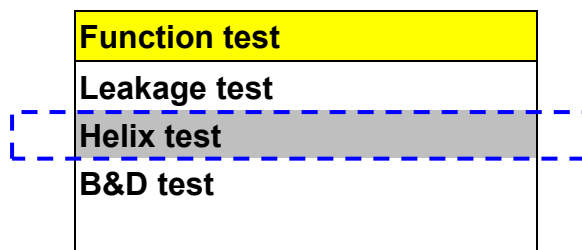

Figure 103
- D. Press  or  button to select Helix Test program (Figure 103).